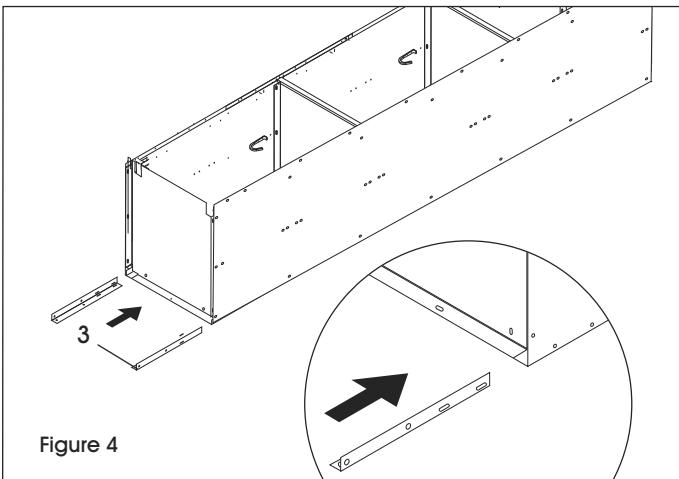

Figure 4
6. Insert rear legs (3) into corners between the bottom and the side. Bolt leg to side using two bolts and nuts per leg. (See Figure 4)